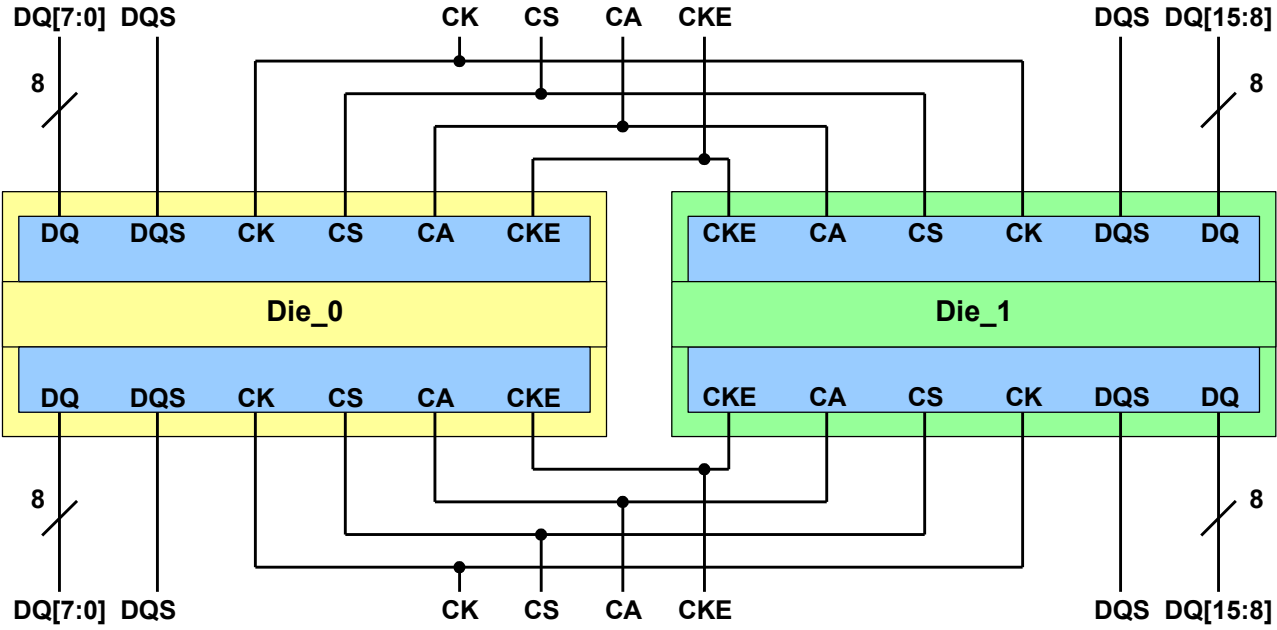

Figure 4 - Dual channel die configuration example
6. For system configurations where the CK, CS, and CA signals are shared between packages, the package design should provide for the ODT_CA ball to be bonded on the system board outside of the memory package. This provides the necessary control of the ODT function for all die with shared Command Bus signals. See Figure 4.